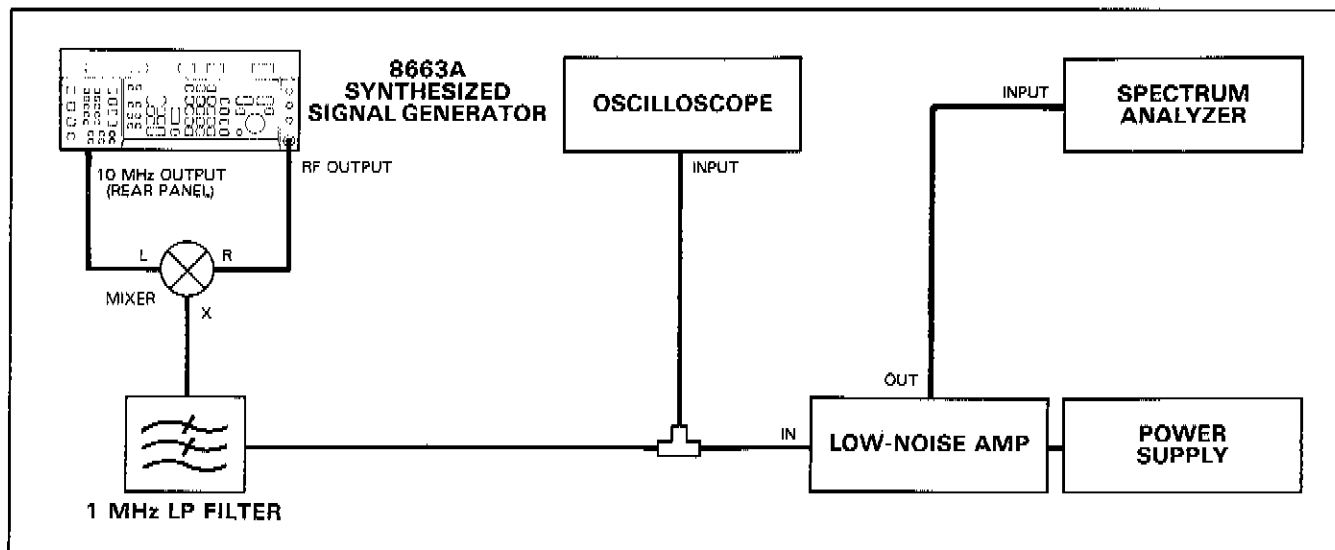

Figure 4-9. SSB Phase Noise Test Setup
1. Connect instruments as shown in Figure 4-9.